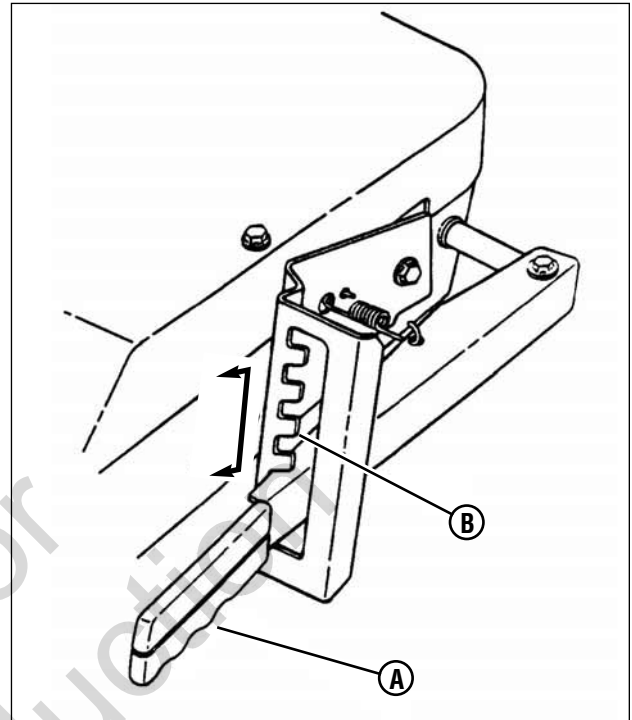

Figure 18: Cutting height adjustment
1. Adjust the cutting height by raising or lowering the deck lift lever (A, **Figure 18**) into the desired height of cut notch (B).